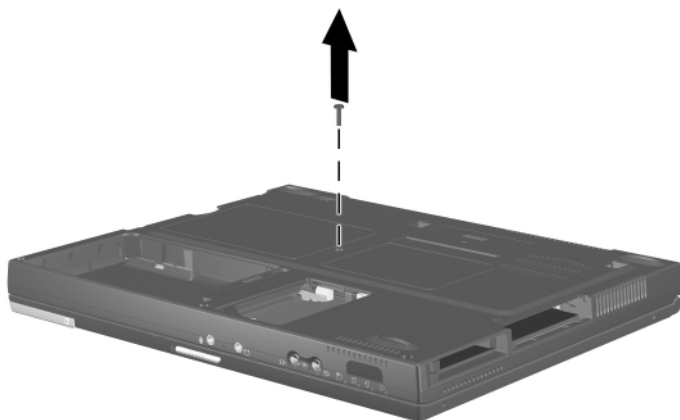

Figure 5-10. Removing the Keyboard Screw
3. Remove the TM2.5 × 7.0 screw that secures the keyboard to the base enclosure (Figure 5-10).